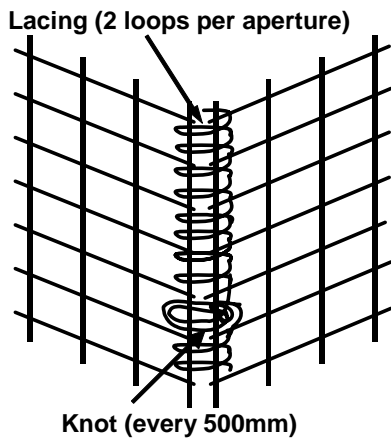

Figure 5: Lacing Pattern
2: The pattern of lacing should be as shown in Figure 5 with stop-knots at 500mm spacing.
Note: For speed of construction several gabions may be laced together end-to-end with fully laced joints as in Figure 5 on their adjoining vertical edges and tensioned as a unit
- 4.8:** Close down top of gabion and tightly lace, as in Figure 5, all edges and top-diaphragm joints.
- 2:** The pattern of lacing should be as shown in Figure 5 with stop-knots at 500mm spacing.